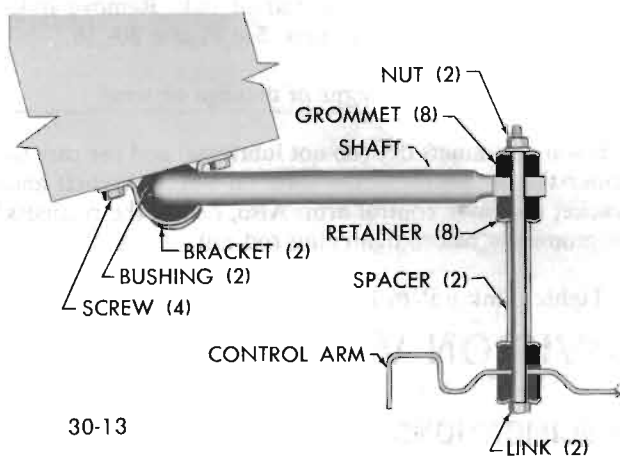

Figure 30-16 - Stabilizer Link Installation
2. Disconnect stabilizer link from lower control arm. See Figure 30-16.
3. Disconnect and remove shock absorber. Refer to Figure 30-16 for detail.
10. Connect stabilizer link as shown in Figure 30-16. Reinstall wheel with hub and drum assembly. Adjust bearing.
1. Remove nut from upper end of link. Remove link, spacer, retainers and grommets. See Figure 30-16.